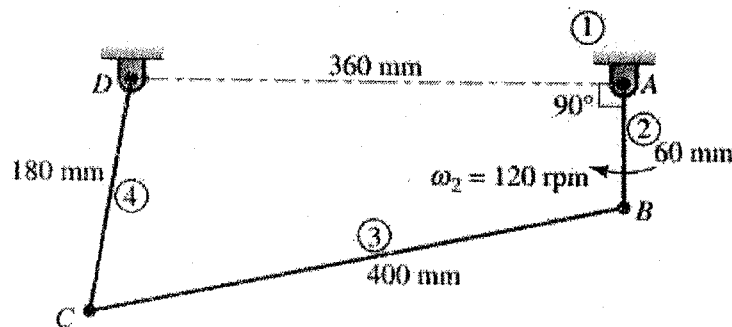

Fig.Q1
B) Of the link mechanism shown in Fig.Q1, the crank AB, rotates clockwise about A at 120 rpm,. The connecting rod CB is 400 mm, and rod CD is 180 mm long, which is fixed to the frame D. AB = 60 mm. The distance between A and D is 360 mm and  $\hat{D}A B = 90^\circ$ .
a) Draw the velocity polygon for the mechanism considering the configuration shown in the figure (Fig.Q1).